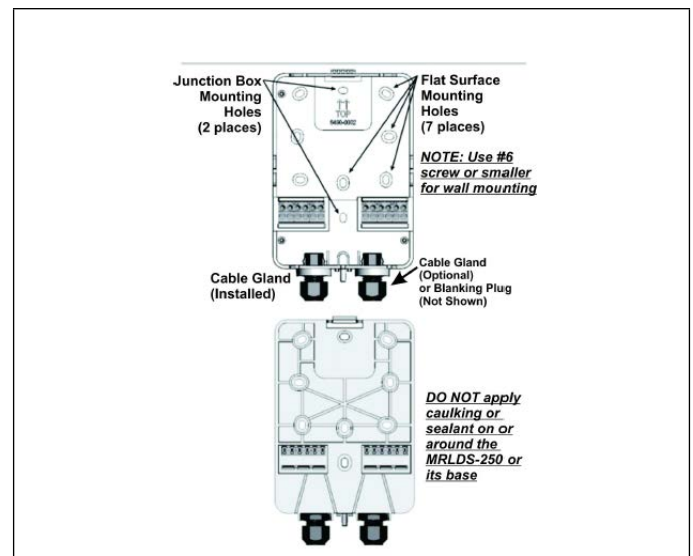

Figure 2 - Front and Back of the MRLDS-250 Base
3. For Wall Mount, attach the MRLDS-250 base to the mounting surface using two #6 screws (provided) through two of the seven mounting holes (see **Figure 2**). For Junction Box Mount, attach the MRLDS-250 base to the junction box through the two junction box holes.